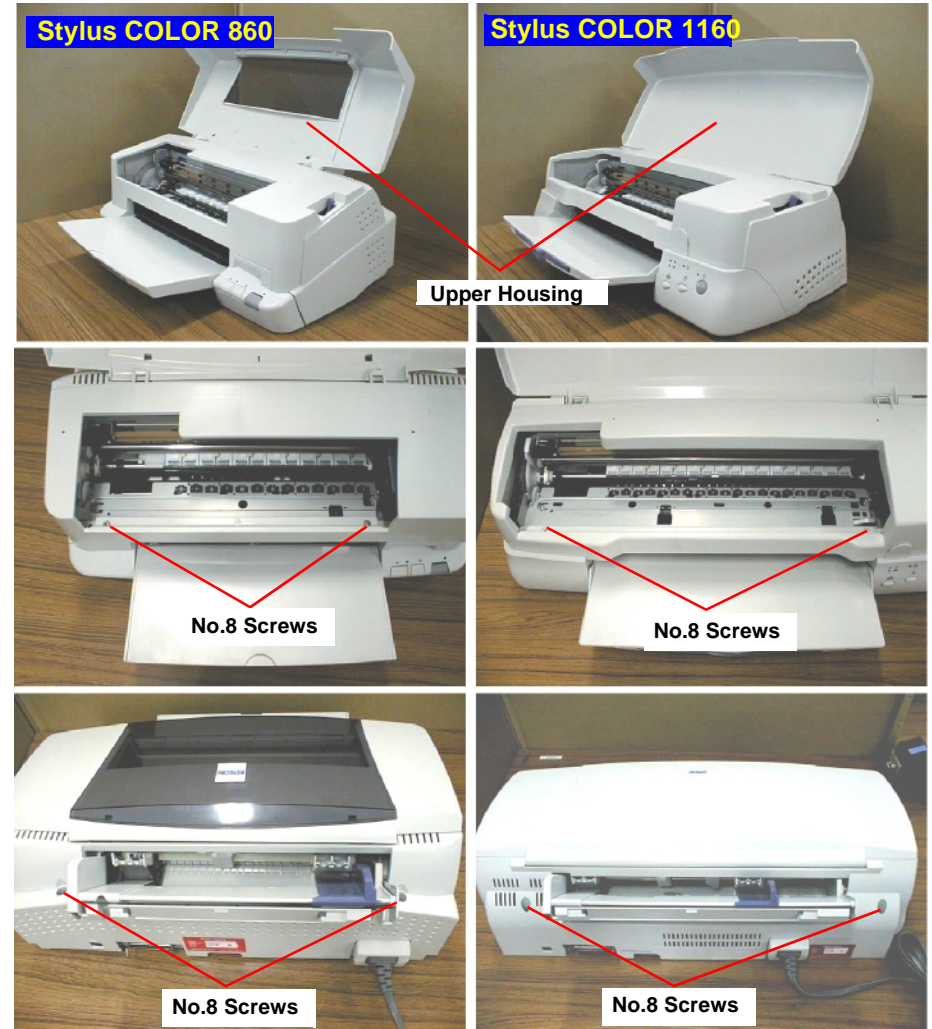

Figure 4-2. Removing the Upper Housing
- 2) Remove 4 screws (No.8) securing the Upper Housing, and remove it upward. Refer to Figure 4-2. The left column's photos show you the Stylus Color 860 and right column's photos show you the Stylus Color 1160.